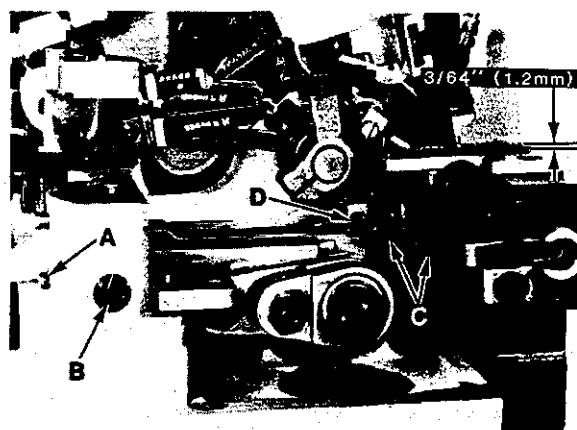

Fig. 15
Rotate handwheel in operating direction until teeth of rising feeds are above the top surface of throat plate. The feeds should be level with throat plate at this time. With feeds at highest position of travel, their teeth should extend approximately $3/64$ inch (1.2mm) above throat plate as shown in Fig. 15.
If adjustment is required, loosen lock screw (A) and rotate tilt adjusting pin (B) as required to level feeds, then tighten lock screw (A). Loosen feed attaching screws (C) and adjust feeds up or down to obtain proper height above throat plate as shown in Fig. 15, then tighten screws (C).